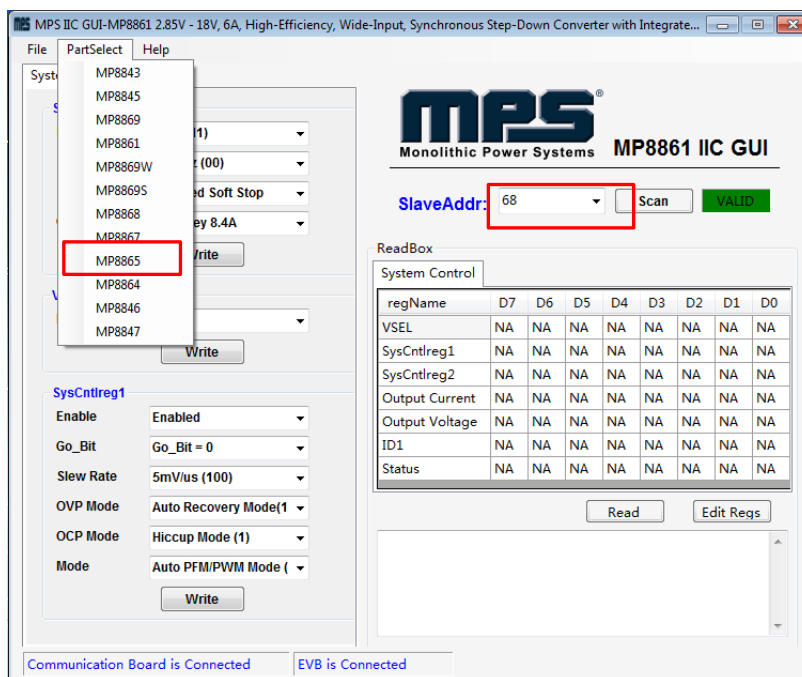
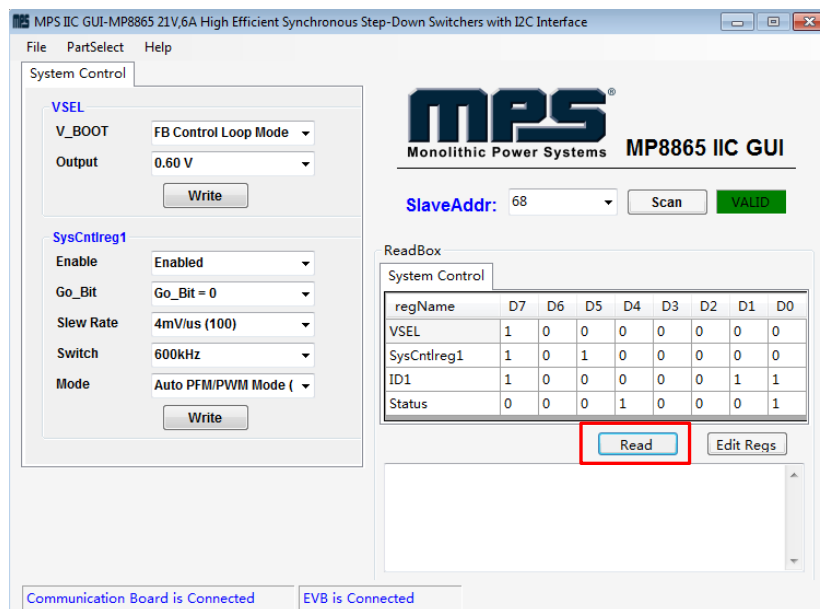

Figure 7: Appearance of Address Shows Successful Connection
Figure 9: Values from I2C Shown in Table
- If the connection is successful, the address will be listed in the “Slave Address” (see Figure 7).
- Click the “**PartSelect**” button to select the MP8865 (see Figure 7) (The default GUI window is for the MP8861). The Register Control menu will appear on the left side. I2C register values will be read and displayed on the right side after clicking the “**Read**” button (see Figure 9).